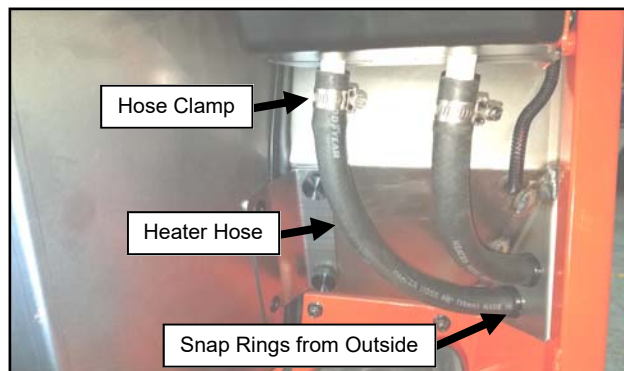

Fig. 20.2 (Snap Rings and Heater Hose)
- 20.2 From outside the cab, install both $\frac{3}{4}$ " snap bushings into the large holes in the right A-pillar floor board. Feed both ends of the 5/8" diameter hose through the bushings to the inside of the cab, connect them to the nipples on the heater, and secure them with 1" hose clamps. See Figure 20.2.